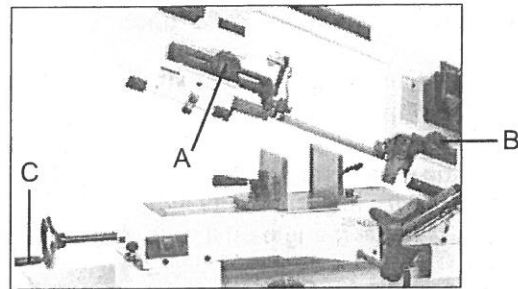
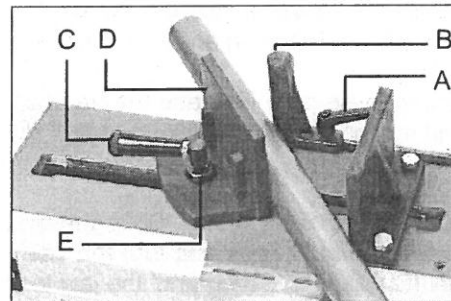

Fig. 6
Fig. 7
2. Loosen knobs (A and B, Fig. 6). Slide blade guide assemblies as close as possible to the material with interfering with the cut.
1. Open the vise. Lift handle (C, Fig. 7) and move the movable vise-jaw (D, Fig. 7) toward the vise hand wheel (C, Fig. 6).
3. Quickly approach the jaw to the work-piece. Lift the handle (C, Fig. 7) and approach movable vise-jaw (D, Fig. 7) to the work-piece. Lower handle (C, Fig. 7) and adjust movable vise-jaw (D, Fig.7) back and forth until the jaw locks\* in place.
4. Clamp the work-piece. Turn hand wheel (C, Fig. 6) to approach and clamp the work piece.
\* Use the handle (C, Fig. 7) for large vise movements.
\* Use the hand wheel (C, Fig. 6) for small vise movements and repeat clamping operations for similar size materials
4. Open the vise. Lift handle (C, Fig. 7) and move the movable vise-jaw (D, Fig. 7) toward the vise hand wheel (C, Fig. 6).
6. Release the movable vise-jaw. Loosen the hollow hex head bolt (E, Fig.7). Rotate the movable vise-jaw relative to the cutting angle.
7. Set the vise-jaw angle. Lift handle (C, Fig. 7) and Slide the movable vise-jaw toward the work-piece until the matching angle is achieved.
8. Secure the vise-jaw. Release the handle (C, Fig. 7) and tighten the hollow hex head bolt (E, Fig. 7).
9. Securely clamp work-piece. Slide the movable vise-jaw (D, Fig.7) back and turn the vise hand wheel (C, Fig.6) to clamp until the jaw locks in place.